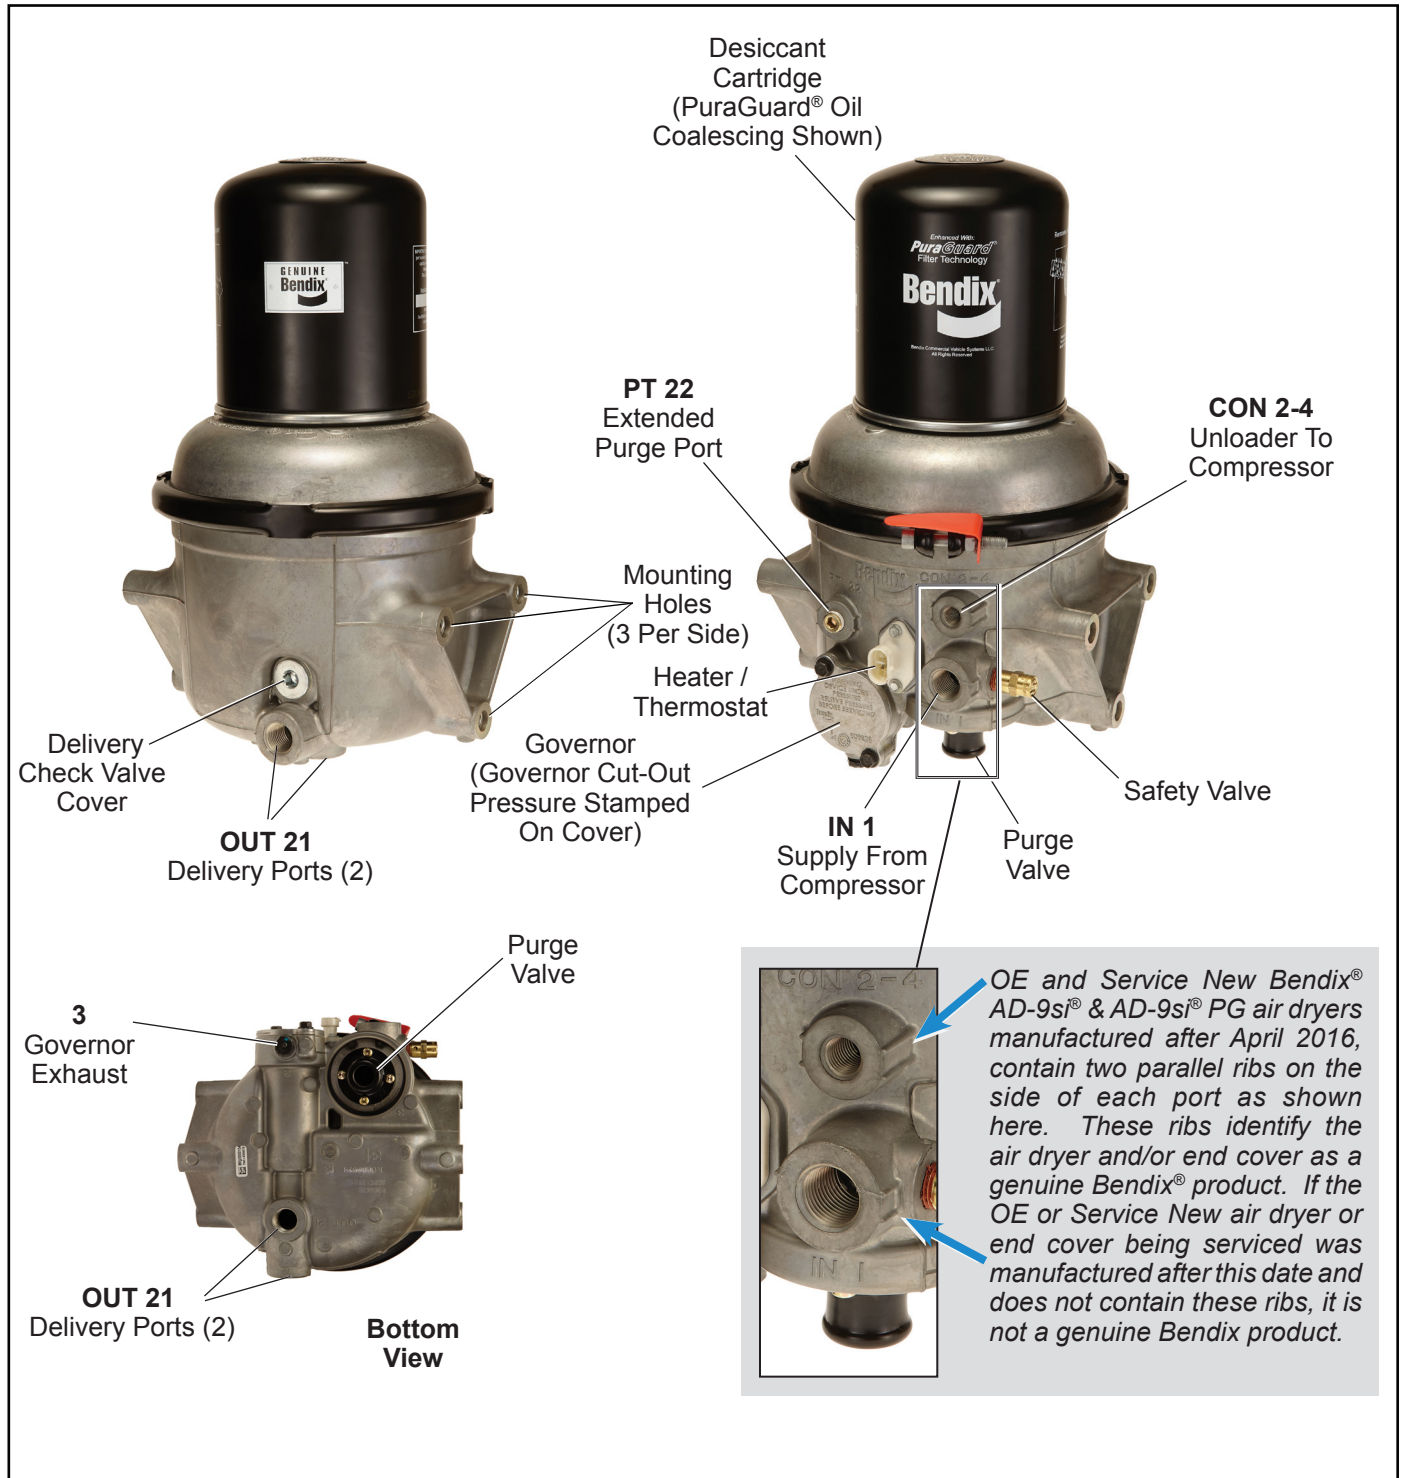

Figure 1 – Bendix® AD-9si® & AD-9si® PuraGuard® Oil Coalescing Air Dryer
2. Check the Bendix® AD-9si® air dryer and mounting bolts for tightness. See *Figure 1*. Re-torque the three air dryer bolts to 720–912 in-lbs.